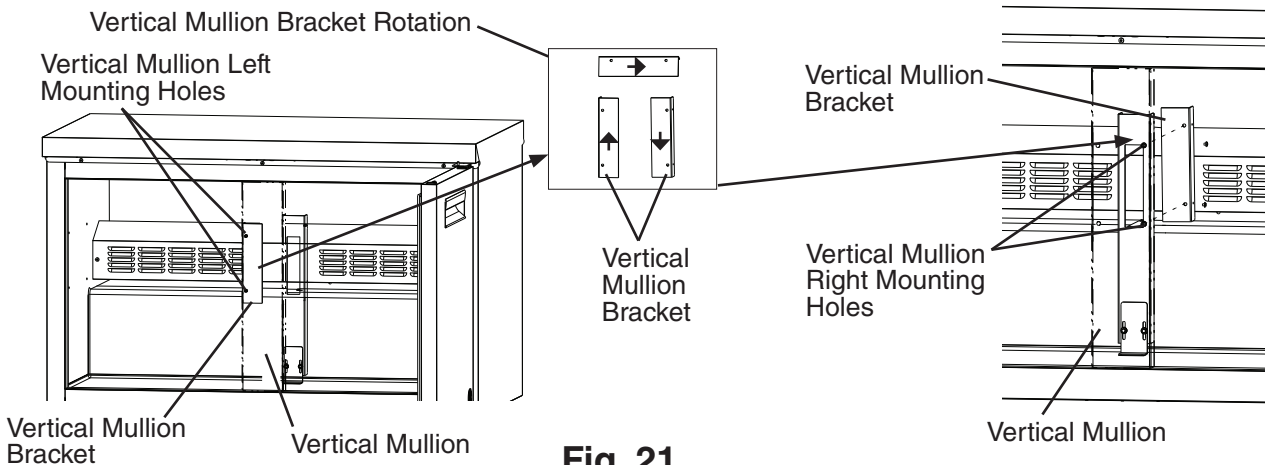

Fig. 21
- 7) Remove the vertical mullion bracket. Rotate 180 degrees and mount it in the vertical mullion right mounting holes. See Fig. 21.